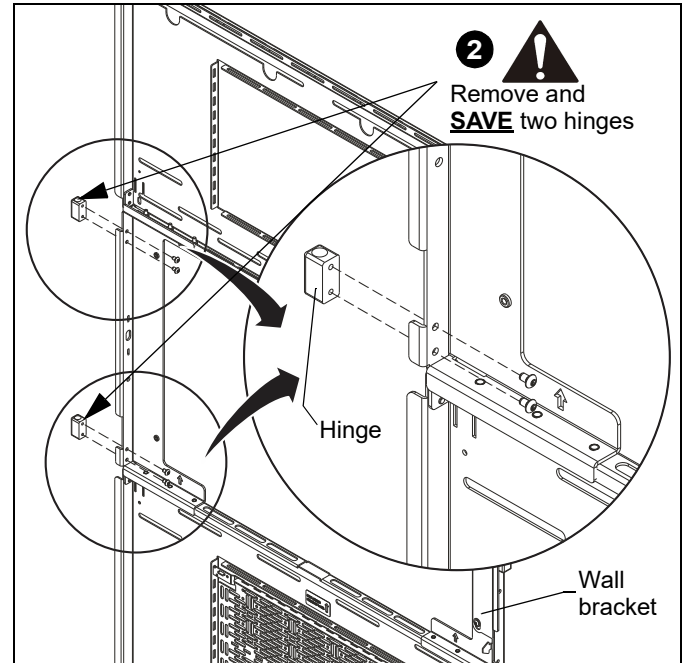

Figure 11
2. Remove and **SAVE** two lift-off hinges from hinged side of wall bracket. (See Figure 11)